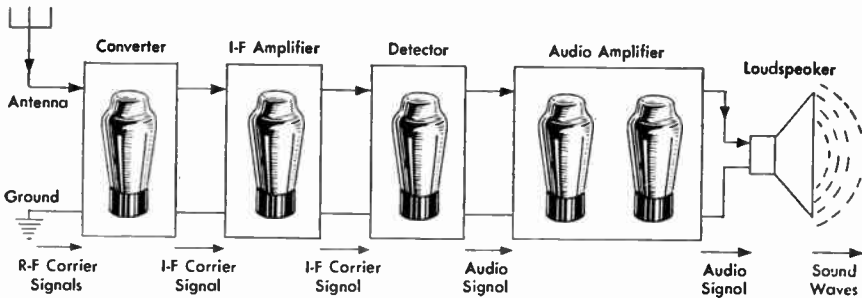

Fig. 4. Circuit arrangement in an a-m superheterodyne radio receiver
**A-M Superheterodyne Receiver.** All television receivers, all auto and portable radios, and practically all the radio receivers used in homes today are superheterodyne receivers, usually called *superhets*. These sets have four main sections between the receiving antenna and the loudspeaker, as shown in Fig. 4.